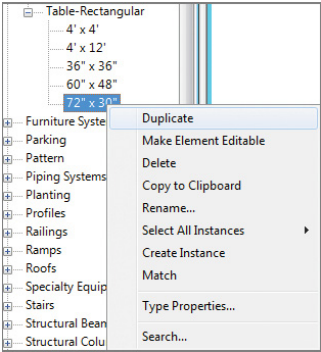

FIGURE 10.18 Duplicating an existing type
2. Duplicate the table. In the Project Browser, expand Families > Furniture > Table-Rectangular, right-click 72" × 30" (180 cm × 75 cm), and choose Duplicate from the context menu (Figure 10.18).